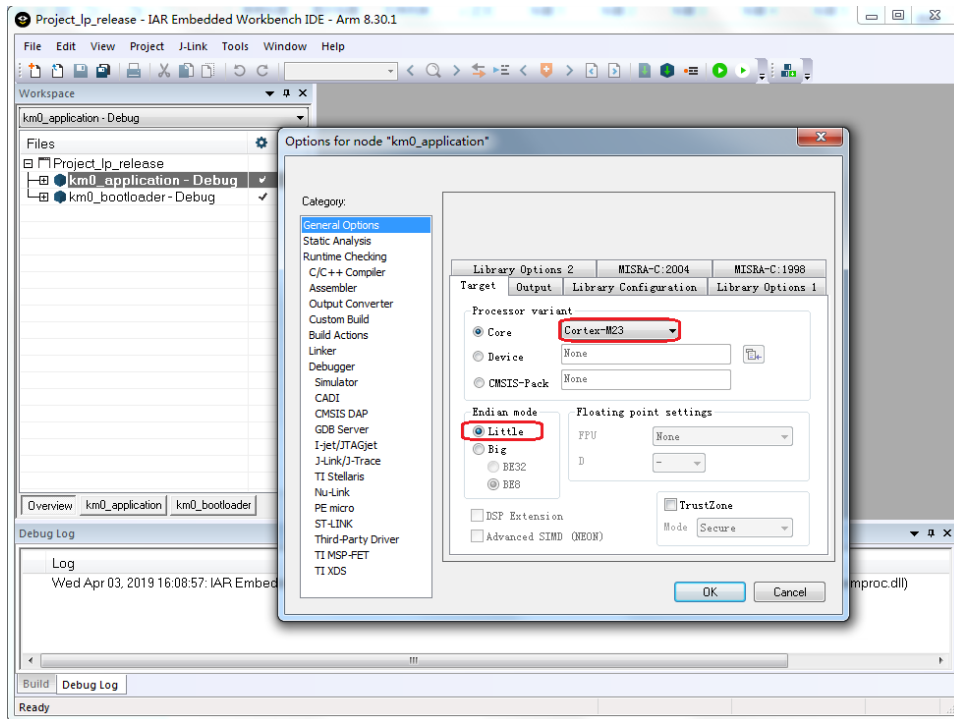

Fig 6-7 KM0 processor options
- (1) Open `project\realtek_amebaD_va0_example\EWARM-RELEASE\Project_lp_release.eww`.
- (2) Make sure km0\_bootloader and km0\_application are in Workspace. Click **Project > Options, General Options > Target > Processor Variant > Core**, verify the CPU configurations according to Fig 6-7.